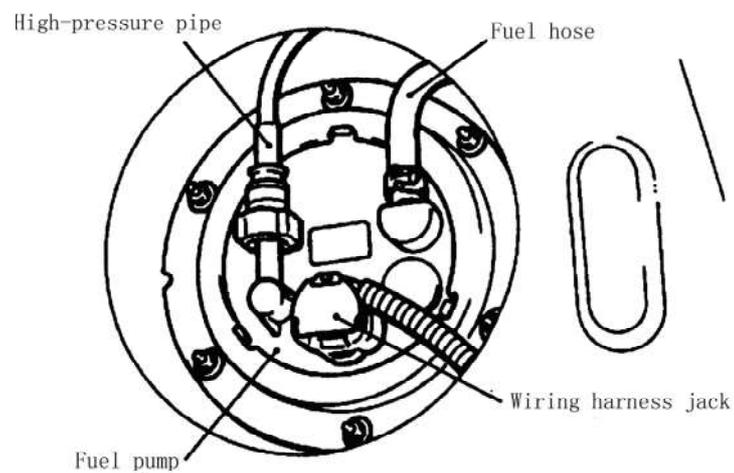
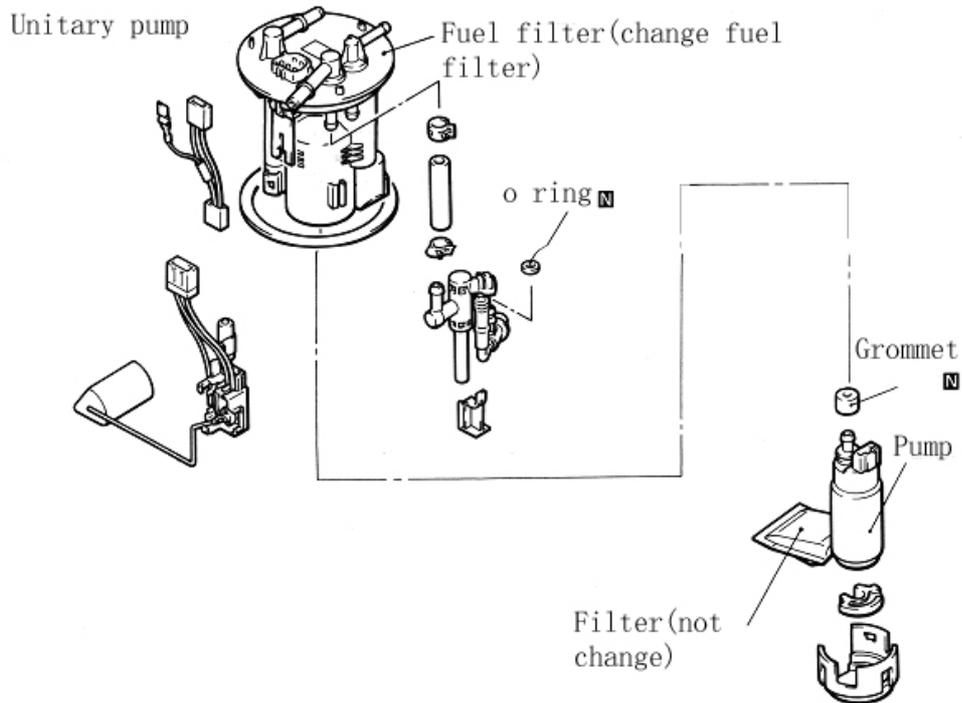

Fig. 6-6
Fig. 6-7
(3) Replace fuel filter
- ① Remove rear seat, and then lift floor pad.
- ② Remove checking cap.
- ③ Remove harness connector pin and fuel hose. (see Fig. 6-6).
- ④ Remove mounting nut, and then remove fuel hose, and fuel pump.
- ⑤ Remove fuel filter from fuel pump. (see Fig. 6-7).
- ⑥ Install new fuel filter.
⑧ Fuel hose and harness socket connection. (see Fig. 6-6).